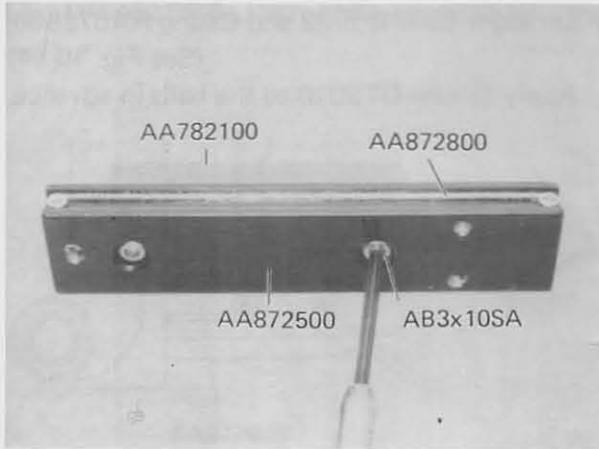

Fig. 10-11
- a) Reassemble Rack AA782100 with Inner guide AA872500 by using two Screws AB3x10SA. (See Fig. 10-11)
- b) Connect four wires AA872800 by tightening four Screws 3PSK2x5SA. (See Fig. 10-11)